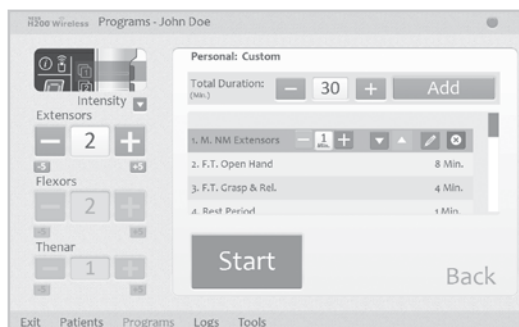

Figure 8-29: Personal Custom Program Segment List
3. The Personal Custom window will open, displaying the program segment list. See Figure 8-29. Adjust the total duration using the arrows at the top of the screen. To adjust the duration of an individual segment, highlight the segment and adjust the duration using the arrows at the bottom of the screen.